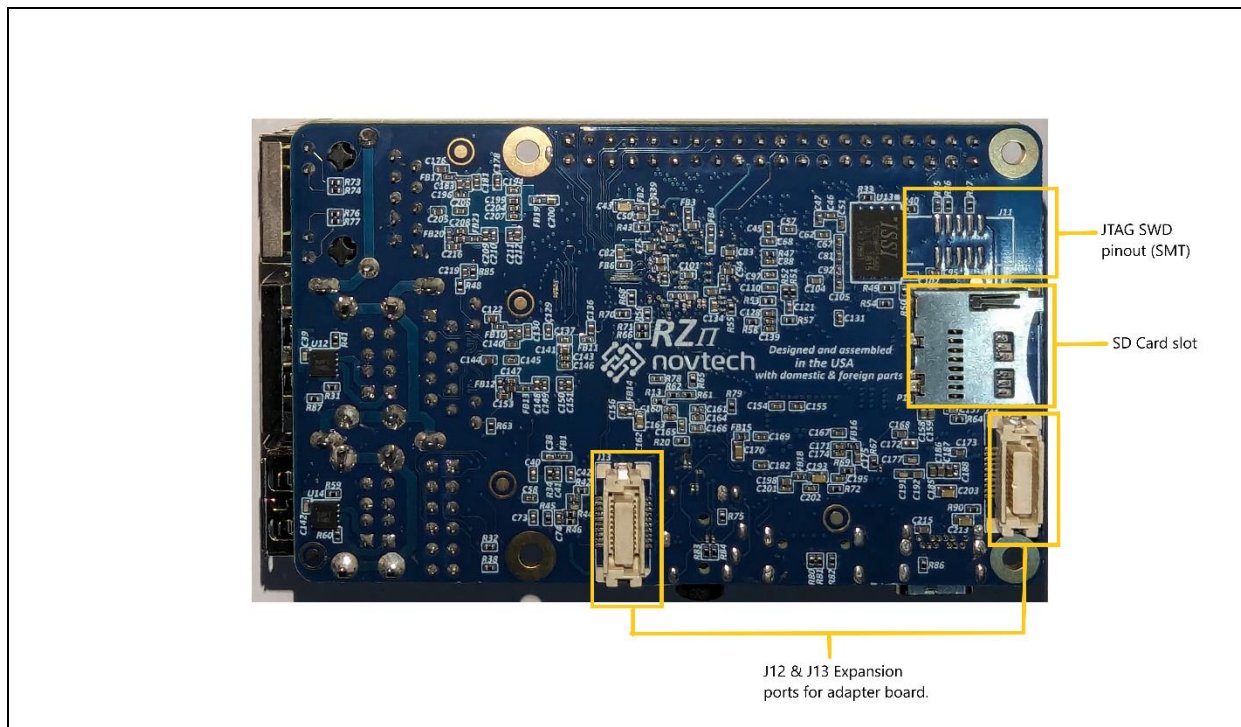

Figure 84. RZ/G2L-SBC Bottom view connectors.
In addition to the boot order, the SoC has two more lines: DEBUGEN (BE) & BSCANP (BS). These lines control the boot mode, which can be JTAG boundary scan or debug mode. Figure 84. Reset Control Logic below shows all the necessary information.